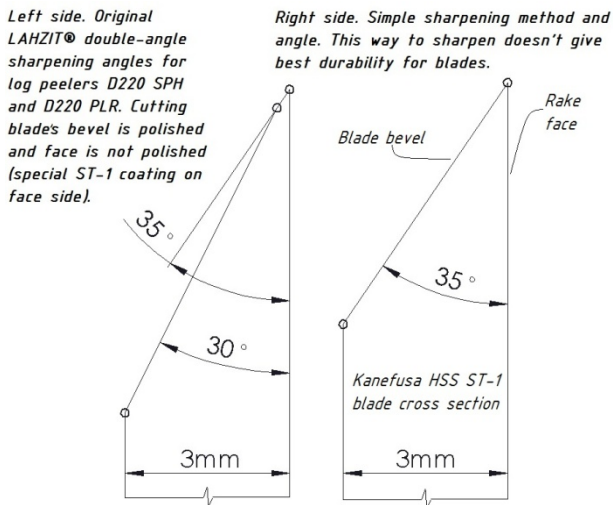

Fig 4. Sharpening geometry of tool D125 PLR blades.
5. Handle cutting blades with care. After sharpening, the blades can injure hands – therefore always use gloves! Sharpening geometry and other related information is shown in figure 4 and figure 6.